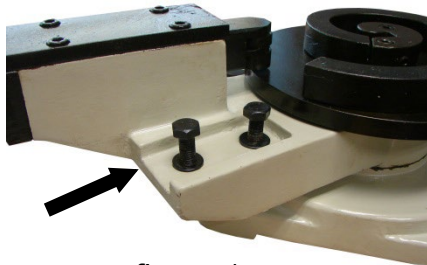

figure 1
1. Remove the (2) bolts and flat washers from the handle pocket (fig. 1).